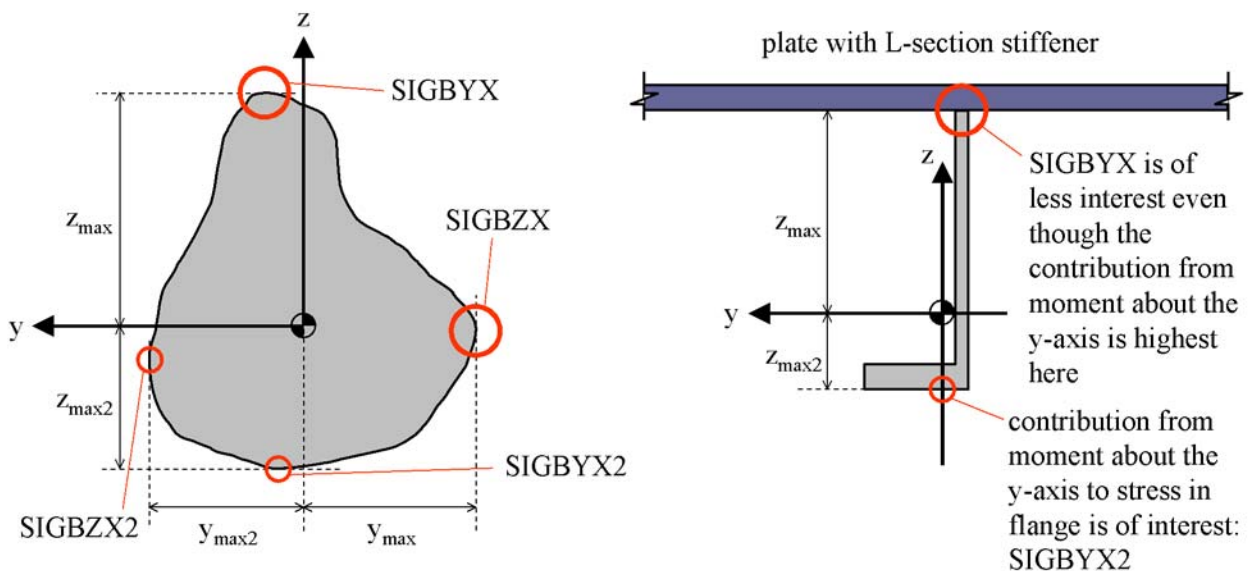

Figure B.11 B-STRESS components due to moments
The B-STRESS components are found by dividing the forces and moments by areas and minimum sectional moduli. Notice the components SIGBYX2 and SIGBZX2 and how they are computed. The motivation for these two components is explained in Figure B.11.
- $WYMIN2 = I_y / z_{max2}$ – minimum section modulus about y-axis on the “opposite side” of z_{max} ; see Figure B.11
- $WZMIN2 = I_z / y_{max2}$ – minimum section modulus about z-axis on the “opposite side” of y_{max} ; see Figure B.11